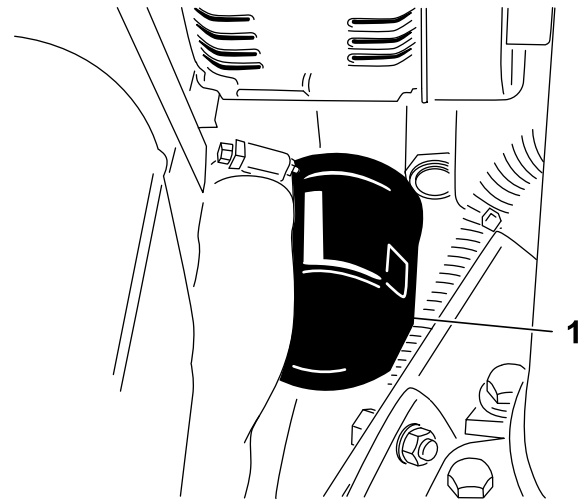

Figure 36
- Remove the oil filter (Figure 36).